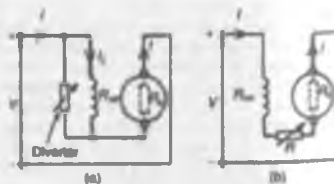

Figure 22.30
where k is a constant, V is the terminal voltage, R is the combined resistance of the armature and series field and Φ is the flux. Thus, a reduction in flux results in an increase in speed. This is achieved by putting a variable resistance in parallel with the field winding and reducing the field current, and hence flux, for a given value of supply current. A circuit diagram of this arrangement is shown in Fig. 22.30(a). A variable resistor connected in parallel with the series-wound field to control speed is called a **diverter**. Speeds above those given with no diverter are obtained by this method. Problem 29 below demonstrates this method.
- (b) Speeds below normal are obtained by connecting a variable resistor in series with the field winding and armature circuit, as shown in Fig. 22.30(b). This effectively increases the value of R in the equation
With the 0.2Ω diverter in parallel with R_m (see Fig. 22.30(a)), the equivalent resistance,
$$I_1 \text{ (in Fig. 22.30(a))} = \left(\frac{0.2}{0.2 + 0.05} \right) I = 0.8 I$$
With reference to Fig. 22.30(b), at 800 rev/min,